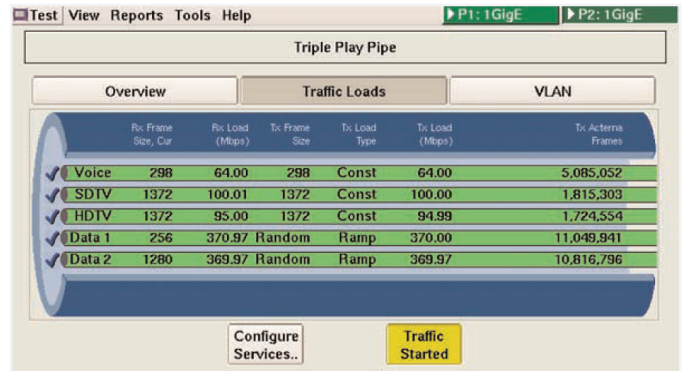
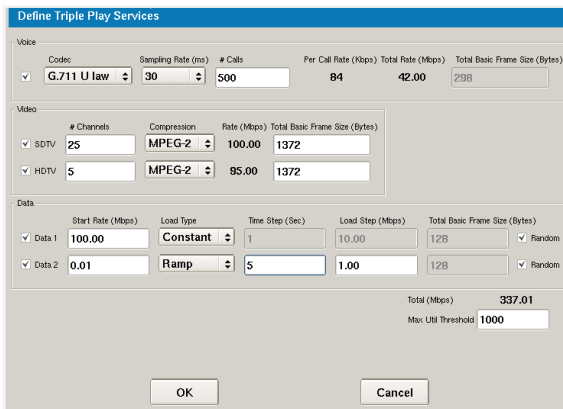

Figure 6. Triple-Play Summary Network Pipe Screen
Figure 5. Configuring Triple-Play Profiles
The Transport Module offers L4 and higher Application-Centric Turn-up that enables technicians to go beyond the traditional Ethernet service turn-up process that verifies the ability of the network to meet SLAs for L2 (Ethernet) and L3 (IP) performance. Upon completion of the basic connectivity and throughput testing, the Transport Module Triple-Play Turn-up test application can be used to simplify the test and verification of a network's ability to carry Triple-Play Traffic. Users simply configure the desired number of representative standard definition (SDTV) and high definition (HDTV) television channels along with voice calls and data traffic, and the unit presents an easy-to-understand summary screen shown in Figure 5, including a network pipe diagram shown in Figure 6.